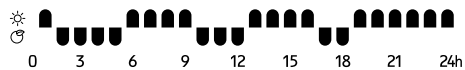

Figure 4
- P3: Can be adjusted to meet your requirements. P3 is the only programme that can be set to your requirements, each day and hour can be set individually by following the instructions below. Below are examples of what you can adjust P3 programme to, although you can adjust this programme to meet your own requirements. (Images (Figure 4 and 5) below are just for illustration purposes only and not shown on the LED display.)